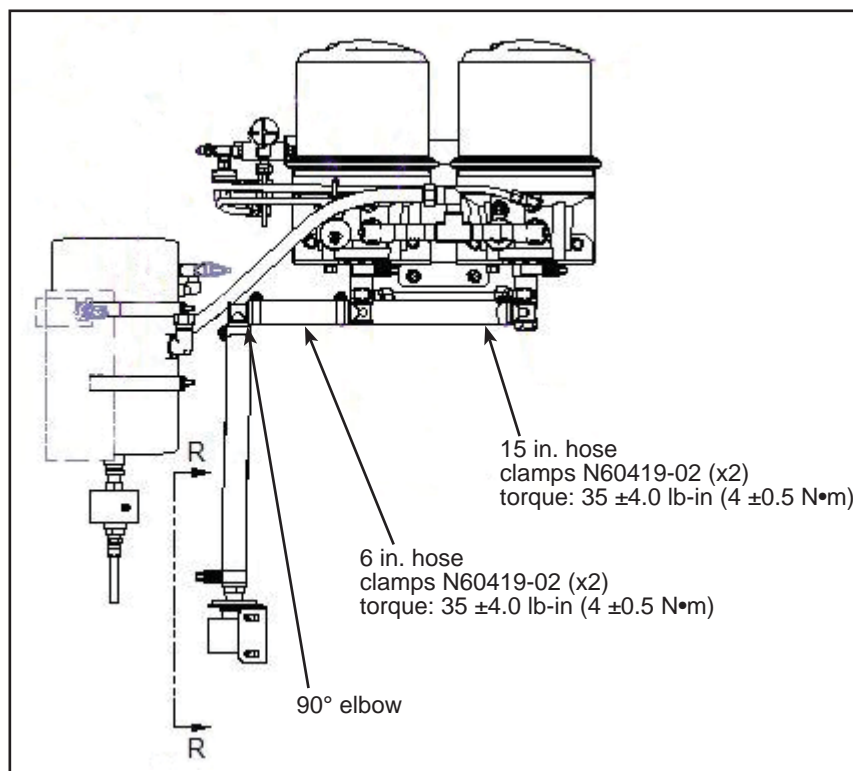

Figure 8 - Air Dryer Exhaust Assembly
- 1.16. Install the 15 inches hose N74649, the 90° elbow and two clamps N60419-02 between the front dryer and the street side silencer's hose. DO NOT torque these clamps at this step. See Figure 8.
- 1.17. Install the 6 inches hose N74649, the 90° elbow and the two clamps N60419-02 between the rear dryer and the curb side silencer's hose. See Figure 8.